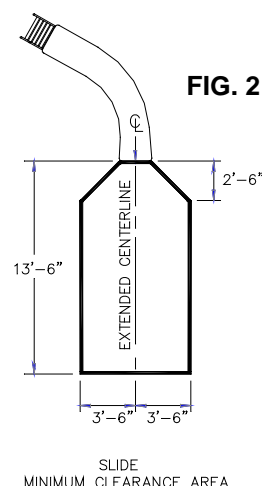

FIG. 2
- A. The minimum clearance distance on either side of the extended centerline of the slide runway shall not be less than three feet six inches (3'-6") at a point no less than two feet six inches (2'-6") from the exit lip of the slide and extending a distance of thirteen feet six inches (13'-6") in front of the slide as shown in **FIG.2**.